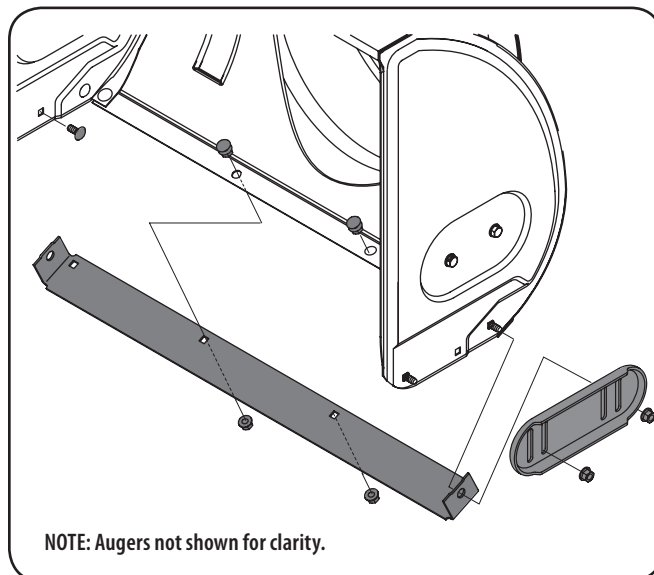

Figure 6-1
2. Reassemble new skid shoes with the four carriage bolts, washers (two on each side) and hex flange nuts. Refer to Fig. 6-1.
Note: The skid shoes on your unit may look slightly different (and have different hardware) than ones shown in Fig. 6-1.